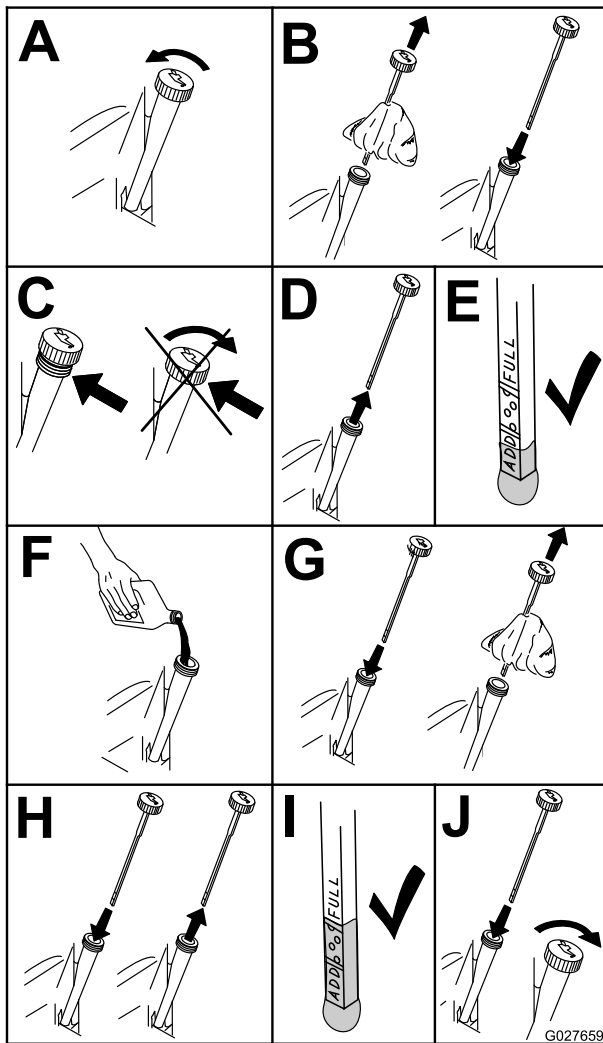

Figure 43
2. Stop the engine, remove the key, and wait for all moving parts to stop before leaving the operating position (Figure 43).